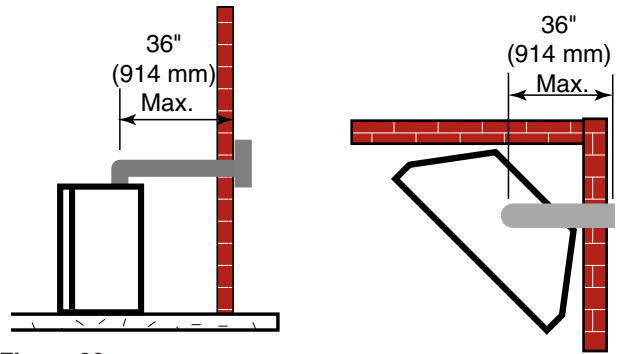

Figure 22 -
- If a 90° elbow is fitted directly on top of the fireplace flange the maximum horizontal vent run before the termination or a vertical rise is 36" (914 mm). *Figure 22*